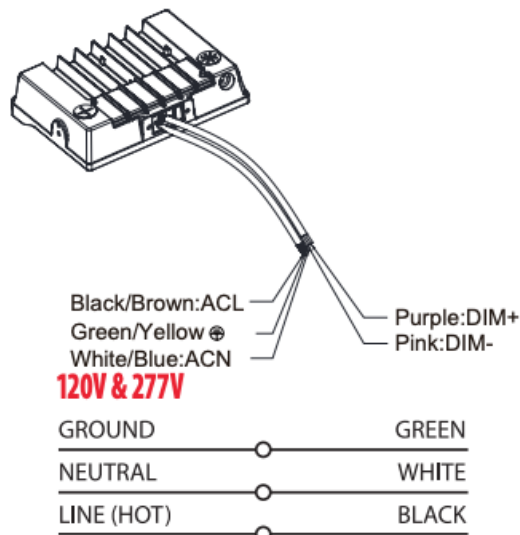
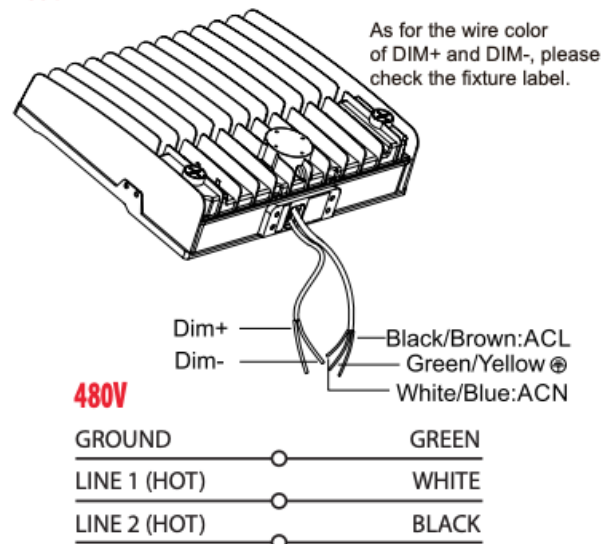

Figure 1
Figure 2
1. Assure power is off during wiring connections, follow wiring diagram Figure 1 and Figure 2.